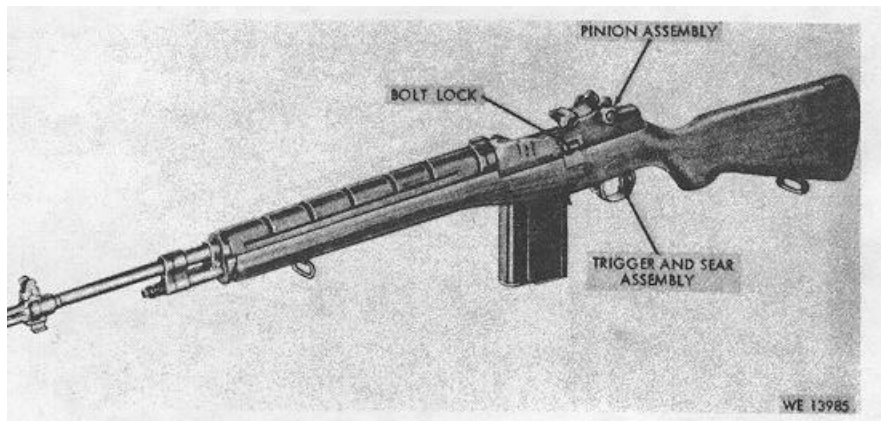
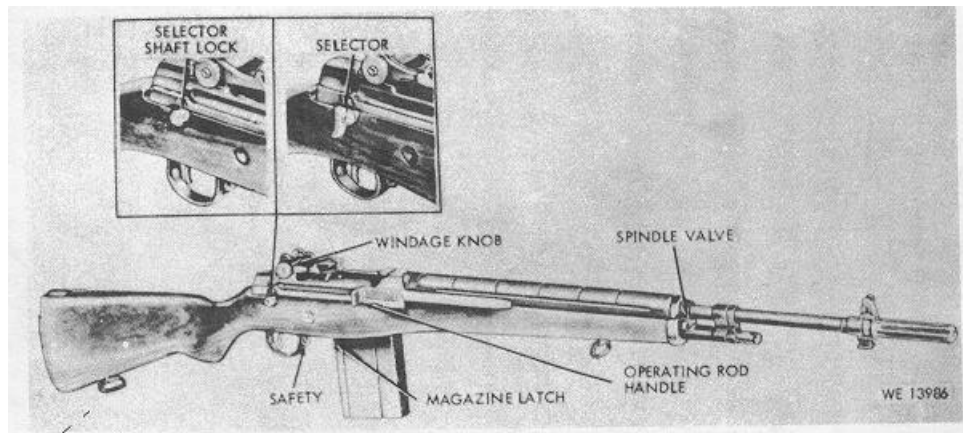
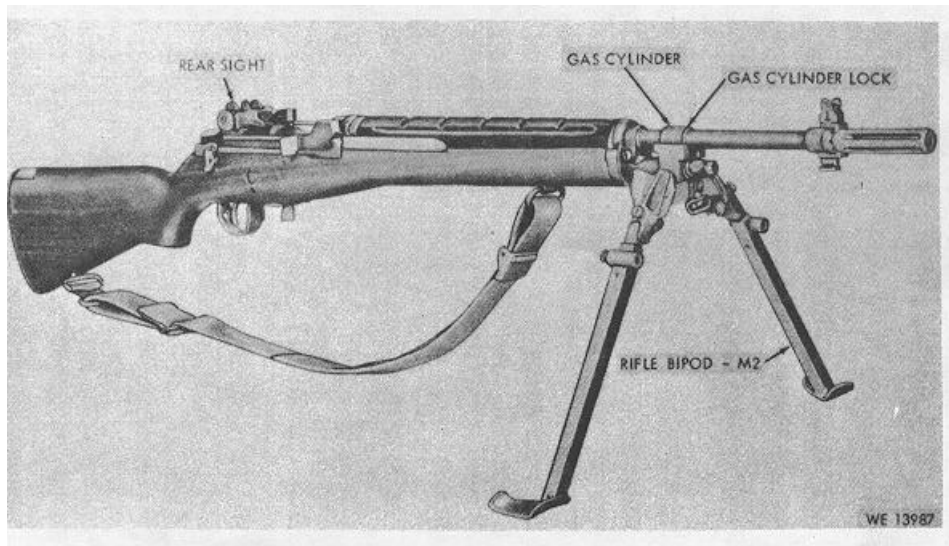
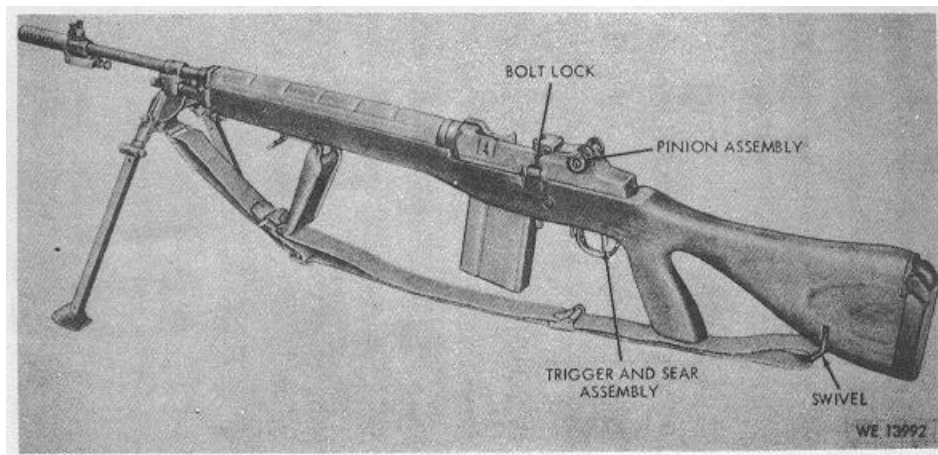

Figure 1-1. 7.62-MM Rifle M14-left front view.
Figure 1-2. 7.62-MM Rifle M14-right front view.
Figure 1-3. 7.62-MM Rifle M14 and Rifle Bipod M2-right front view.
Figure 1-8. 7.62-MM Rifle M14A1-left rear view.
This manual contains information and instructions for the operator responsible for performing maintenance on 7.62-MM Rifle, M14, M14A1 and Rifle Bipod, M2, (figs. 1-1 through 1-10) as allocated by the Maintenance Allocation Chart (MAC).
a. The 7.62-MM Rifle, M14 or M14A1 (figs. 1-1 through 1-9) is a lightweight, air-cooled, gas operated, magazine fed, shoulder weapon, used primarily for semiautomatic or full automatic fire.
The Rifle M14A1 (figs. 1-8 and 1-9) differs from the Rifle M14 (figs. 1-1 through 1-7) in that it has a cushioned type butt plate to reduce the recoil force, a modified in-line pistol grip-type stock assembly with a folding shoulder rest, hand grip assembly, selector, and a stabilizer assembly. The stabilizer provides for muzzle compensation and reduces recoil action. The stabilizer fits over the flash suppressor and locks to the bayonet lug.
(1) The integral trigger and sear assembly (fig. 1-8) is part of the firing mechanism. When the trigger is squeezed it initiates the fire train, causing forward movement of the hammer. As the hammer goes forward, the firing pin strikes the primer in the head of the cartridge case causing it to ignite, thus initiating the main propellant in the body of the chambered cartridge. The pressure which is built up from the burning propellant causes the bullet to be propelled out the barrel of the weapon into flight.
(2) The trigger and sear assembly is located inside of the receiver assembly.
(1) The safety (figs. 1-2 and 1-9) prevents the rifle from being accidentally fired.
(2) The safety mechanism is located just forward of the trigger.
(3) The weapon will not fire when *safety* is in rear position.
(4) weapon will fire when *safety* is set in forward position.
d. Spindle Valve. The spindle valve controls gas flow. When the slot of the spindle is in the 12 o'clock position (ON), sufficient gas pressure is released to cause the rifle to function. However, when the slot of the spindle is in the 3 o'clock position (OFF), maximum gas pressure is built up to propel the rifle grenades. The spindle (figs. 1-2 and 1-9) further prevents the by-pass of gas into the gas cylinder.
e. *Rear Sight.* The rear sight (fig. 1-3) is used for the alignment of firer's line-of-fire with target (FM 23-71) to be fired upon. The lateral movement of the sight is regulated by the windage knob (fig. 1-2), whereas the sight elevation of the aperture is adjusted by the pinion, which is calibrated in meters. Turn pinion (fig. 1-1) clockwise to elevate.
f. *Operating Rod Handle.* The handle of the operating rod (fig. 1-2) must be used to manually operate the bolt for feeding, chambering, locking, and ejecting of cartridges. When the rifle is fired, gas pressure builds up in the gas cylinder (fig. 1-3) which forces the operating rod to the rear, thus initiating bolt action.